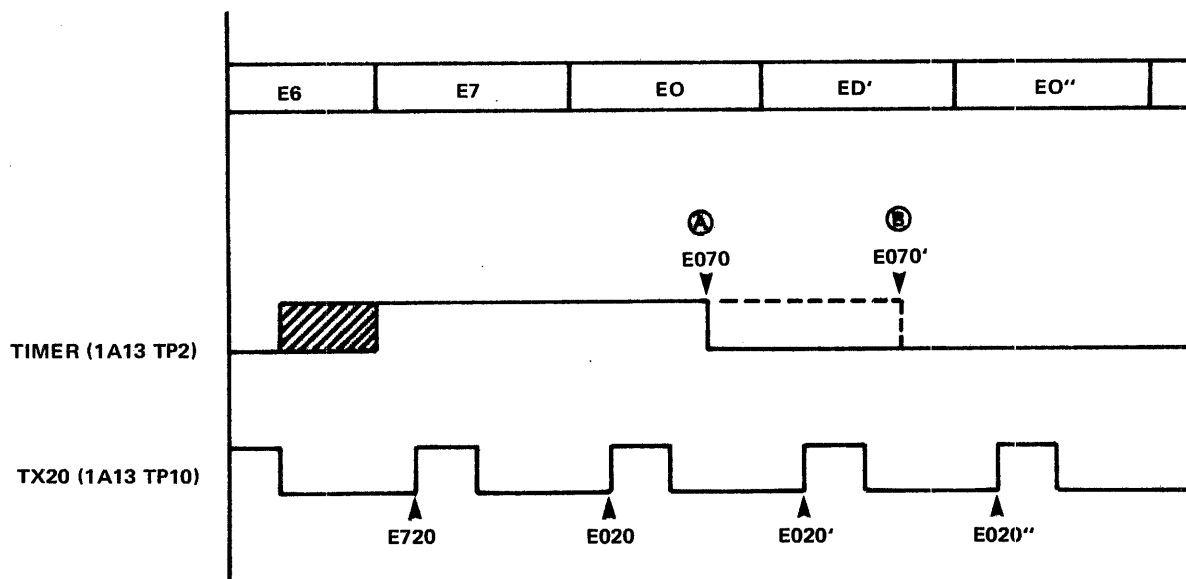

Figure 6-7. Timer Delay Waveforms
2. Sync the oscilloscope on 1A13 TP2, set the display mode selector to CHOPPED, and set up for simultaneous display of the TIMER waveform at 1A13 TP2 and the TX20 waveform at 1A13 TP10. (See Figure 6-7.) Leading edge of the TIMER waveform will start somewhere between E650 and E700 (not critical).
3. If the System has only the non-ECC portion of the Register Option (RO) present (chassis 1), adjust pot R14 on 1A13 so that the trailing edge of the TIMER pulse falls exactly midway between the leading edges of the second and third TX20 pulses from the leading edge of the TIMER pulse; i.e., at E070 (point A on Figure 6-7). This produces a TIMER pulse of about 200 nanoseconds in width, which generates E0⁻ on module 1A15.
4. If the System has both the non-ECC portion (chassis 1) and ECC portion (chassis 2) of the RO present, adjust pot R14 on 1A13 so that the trailing edge of the TIMER pulse falls exactly midway between the leading edges of the third and fourth TX20 pulses from the leading edge of the TIMER pulse; i.e., at E070' (point B on Figure 6-7). This produces a TIMER pulse of about 300 nanoseconds in width, which generates both E0⁻ and E0^{-'} on module 1A15.